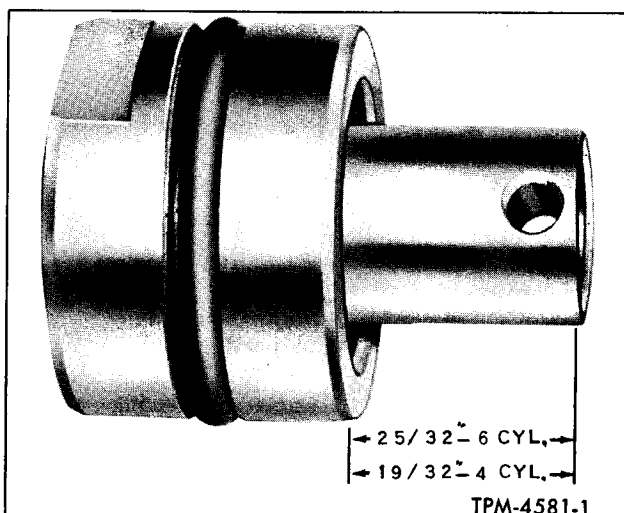

Figure 64—High Speed Piston Preliminary Setting
6. If sleeve and piston have been separated they should be threaded together until a preliminary measurement of $2\frac{5}{32}$ " for 6-71 or $1\frac{9}{32}$ " for 4-71 engines is obtained (fig. 64).
4. Measure distance from end of piston to end of sleeve (fig. 64). This dimension should be approximately $2\frac{5}{32}$ " for 6-71 or $1\frac{1}{32}$ " for 4-71 engines.
5. Should it be necessary to increase engine RPM the dimension, shown in Figure 64, should be increased. Also, when necessary to decrease engine RPM the dimension, shown in Figure 64, should be decreased. NOTE: Each full turn of piston and sleeve will change engine approximately 100 RPM.